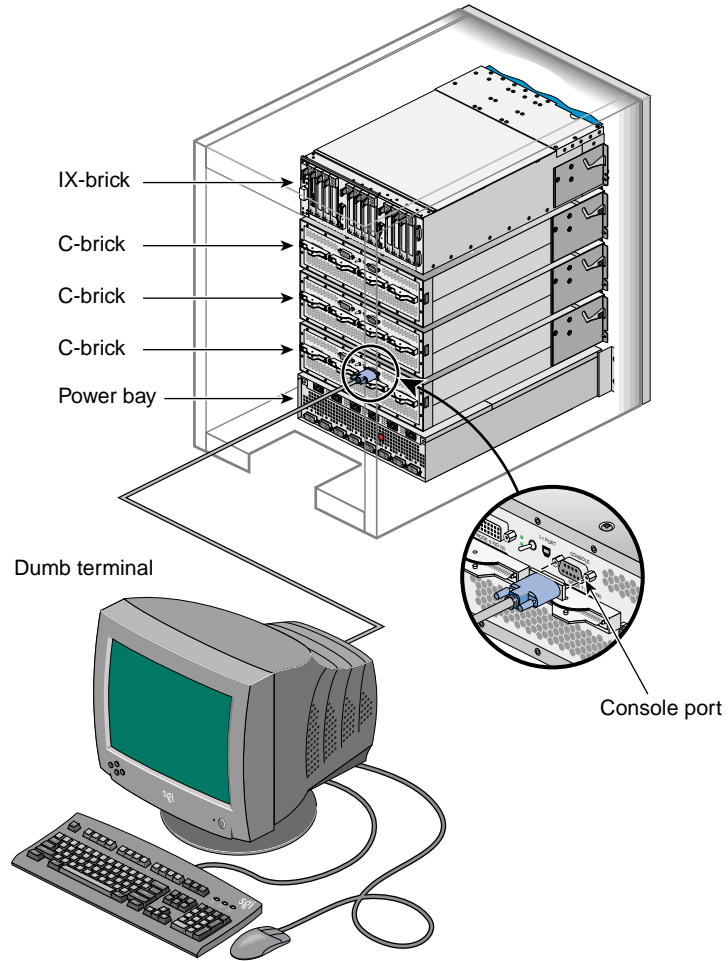

Figure 1-14 Console Connection Options for Servers without an L2 Controller
- If your system does not have an L2 controller, you can connect a dumb terminal to the C-brick console port. If you have multiple C-bricks, connect the dumb terminal to the bottom-most C-brick in the rack, as shown in Figure 1-14. This connection enables you to view the status and error messages generated by the L1 controller and to enter L1 commands to manage and monitor your system.